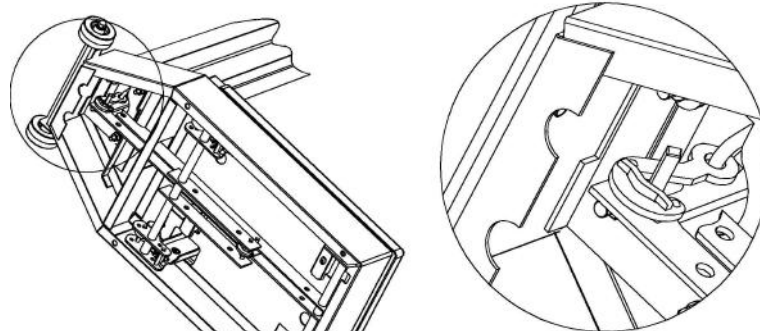

Fig. 2
6. Lift the lever and push the lever, turn and hook the draught rod Inside of the column with lever. (Fig. 2)